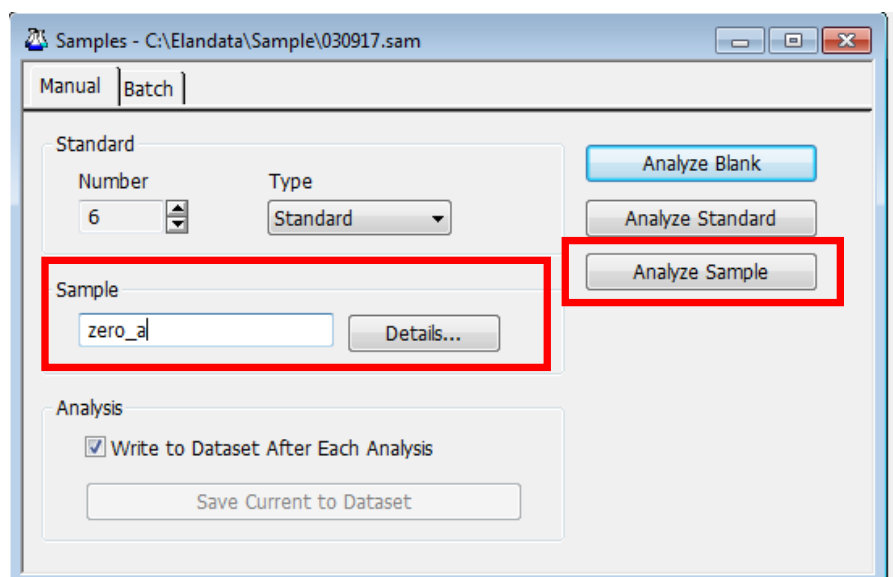

Figure 19: Initiating a sample analysis.
- o. Place the sampling wand into your digested sample tube, enter a Sample identifying name and select Analyze Sample (**Figure 19**).